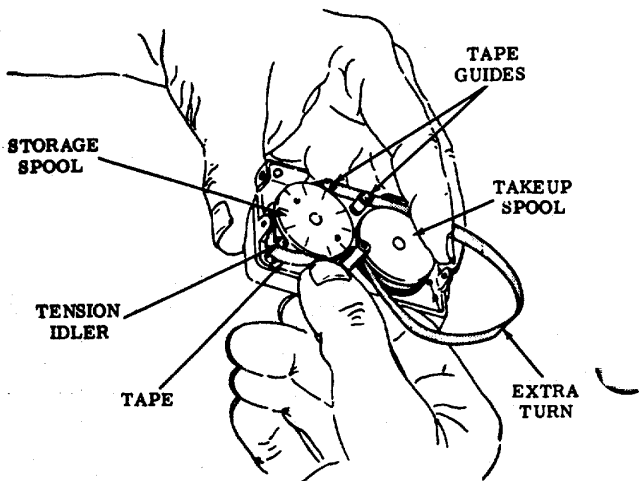

Figure 2-5. CA-3B Cartridge tape replacement.
*Step 11.* Pull out enough tape to make a complete extra turn around the core of the takeup spool (fig. 2-5). Attach the tape to the core with a short length of pressure-sensitive tape. The purpose of this extra turn is to provide a full turn of tape completely around the core of the spool when it is at rest. This insures a lasting attachment and prevents the adhesive tape from contaminating or touching the overlying layers of recording tape.